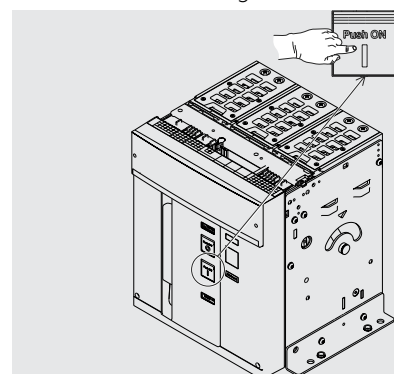

Figure 77
4. Closing - Press the closing pushbutton "I - Push ON" as indicated in Figure 77.